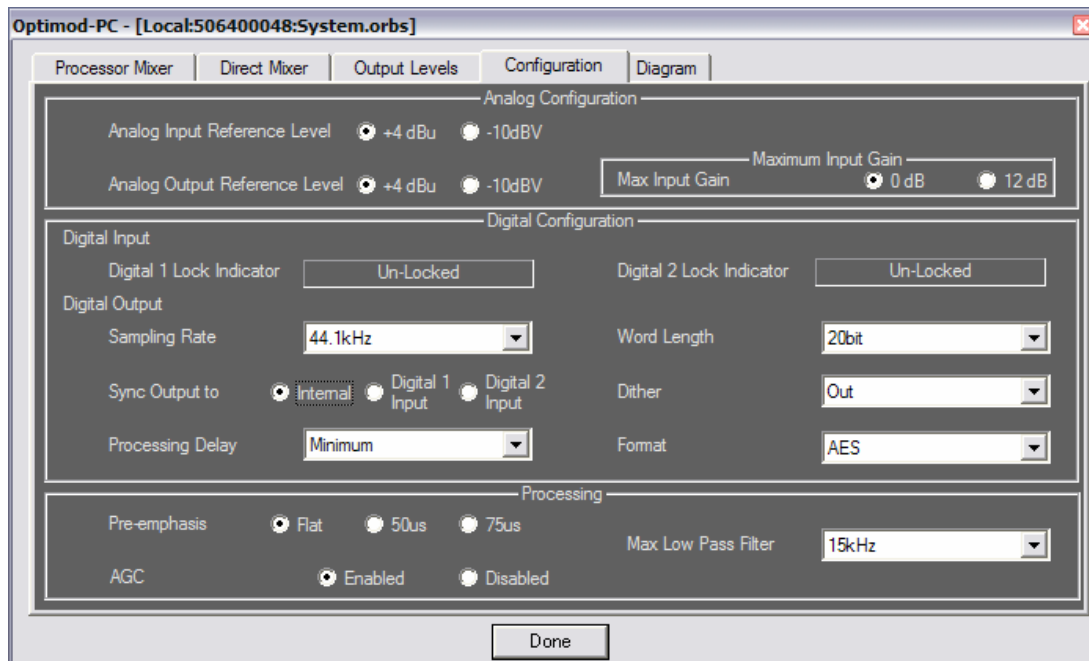

Figure 2-6: Configuration Page in the I/O Mixer
- A) In the I/O Mixer, click the CONFIGURATION tab (see Figure 2-6 on page 2-21).